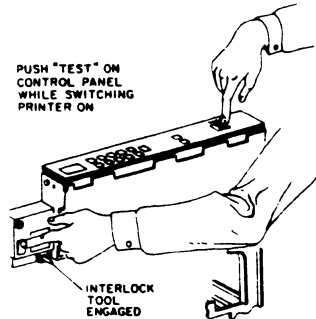

Figure 1. Selecting the Diagnostic Mode
2. ENTER INTERNAL DIAGNOSTIC MODE 1 (FIGURE 1).